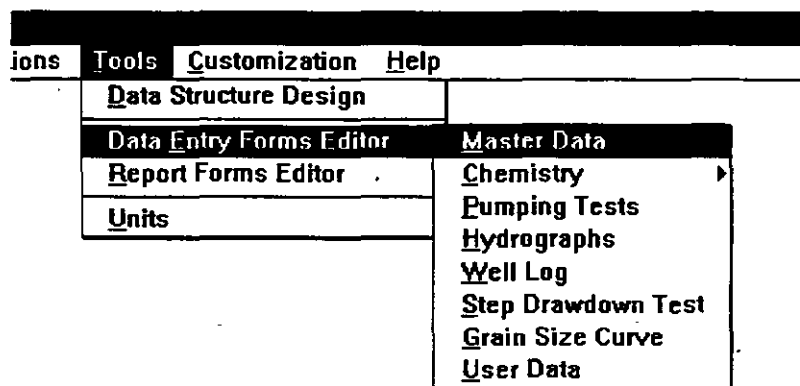

Figure 3-6
1. To start this exercise, select **Tools** from the main menu, then select **Data Entry Forms Editor**. The screen is as shown in Figure 3-6. Click on **Master Data**. You are